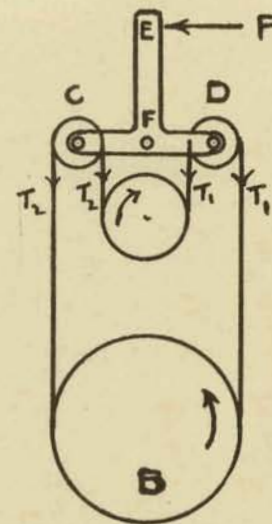

Fig. 6
6. In testing the power of an engine by a transmission dynamometer, Fig. 6, the thrust  $P$  was found to be 12 lbs. Find the brake horsepower. Speed of B 300 r.p.m.; diameter of B 40 inches; centres of C and D 36 inches apart; arm EF 30 inches long. The arm CD pivots about F, which is a fixed centre.